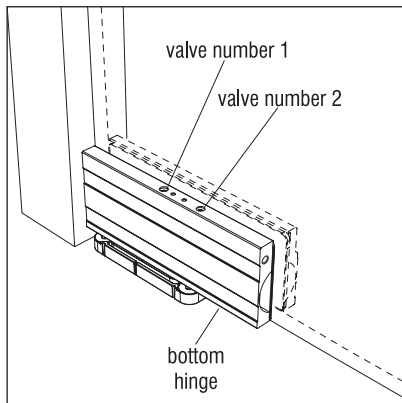

Figure 19
11. There are two regulating valves on the bottom hinge, Number 1 and Number 2 (Figure 19).